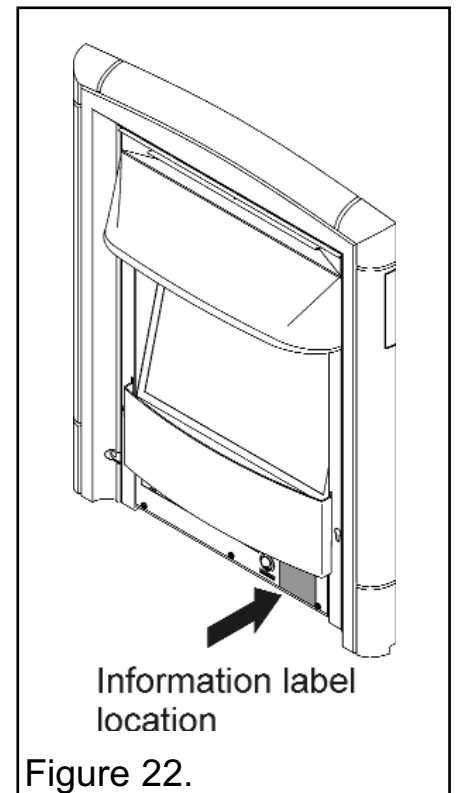

Figure 22.
- Model, Name and serial number (This information can be found on a small label attached to the lower right of the heater (See figure 22) and should also have been recorded on the last page of this guide.
Serial number (Can be found on the information label - See figure 22)